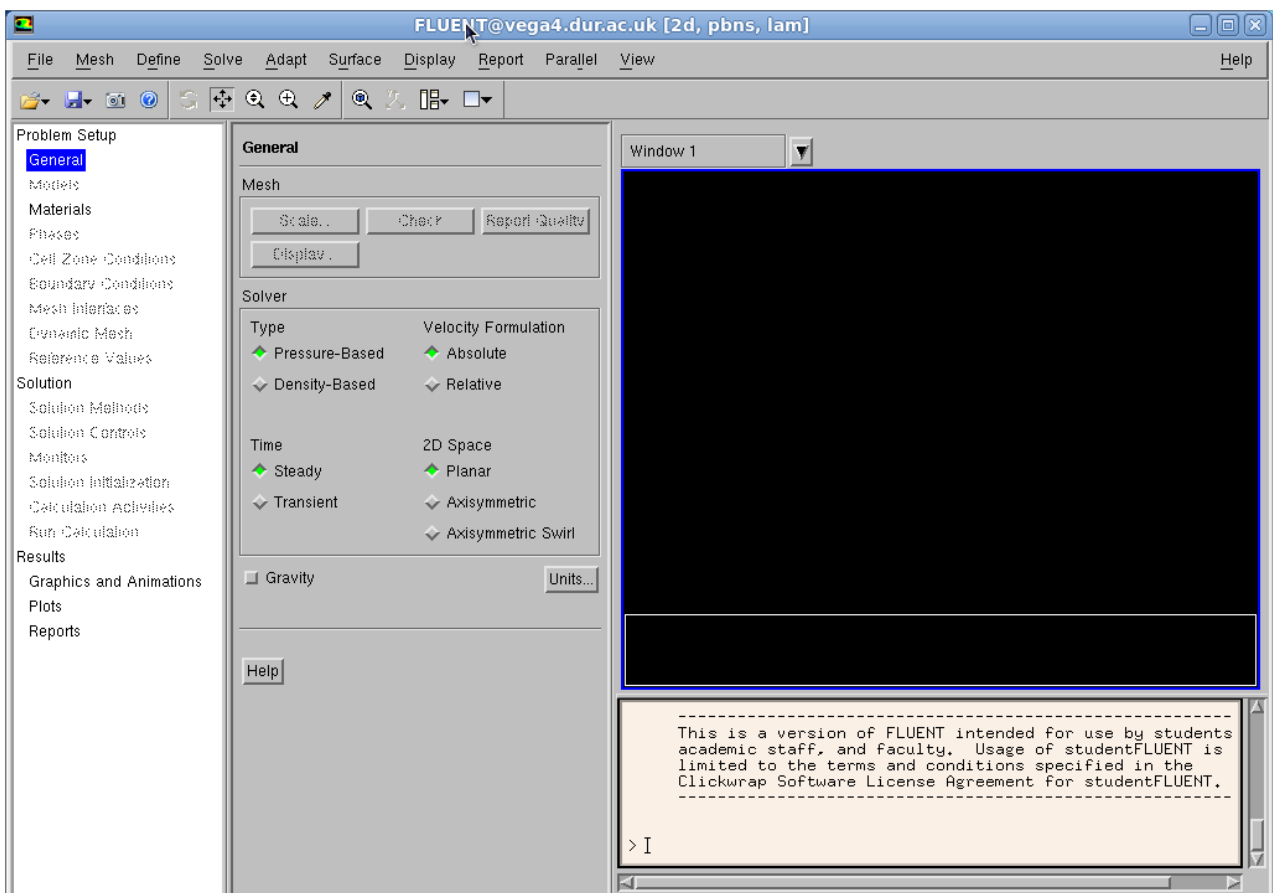

Figure 1: General View of Fluent 12
- This pops up a window in which you can set your working directory and so on. You need to ensure that under “Dimension” the 2D radio button is checked. After a short while something like Figure 1 will pop up.